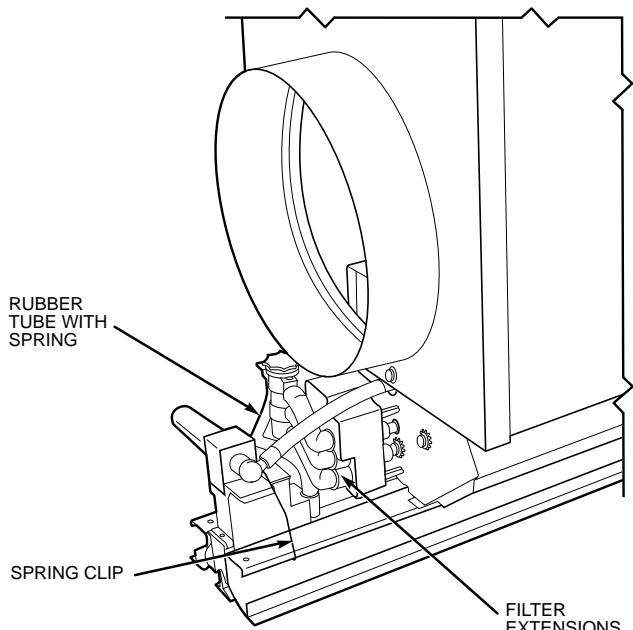

Fig. 11 — 37HS Variable Air Volume Control Installation
12. Remove cap from the aspirator supply port on the unit control block. Remove $5\frac{1}{2}$ -in. plastic tube attached to the aspirator and replace it with $4\frac{3}{8}$ -in. length. Connect the aspirator supply tube to the control block connection. Figure 11 shows the completed installation.